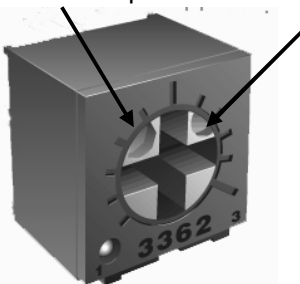

Figure 9: Fine adjustment potentiometer
- 7.2. If necessary, use a fine screwdriver to rotate the dial of the potentiometer to the position shown in Figure 9.